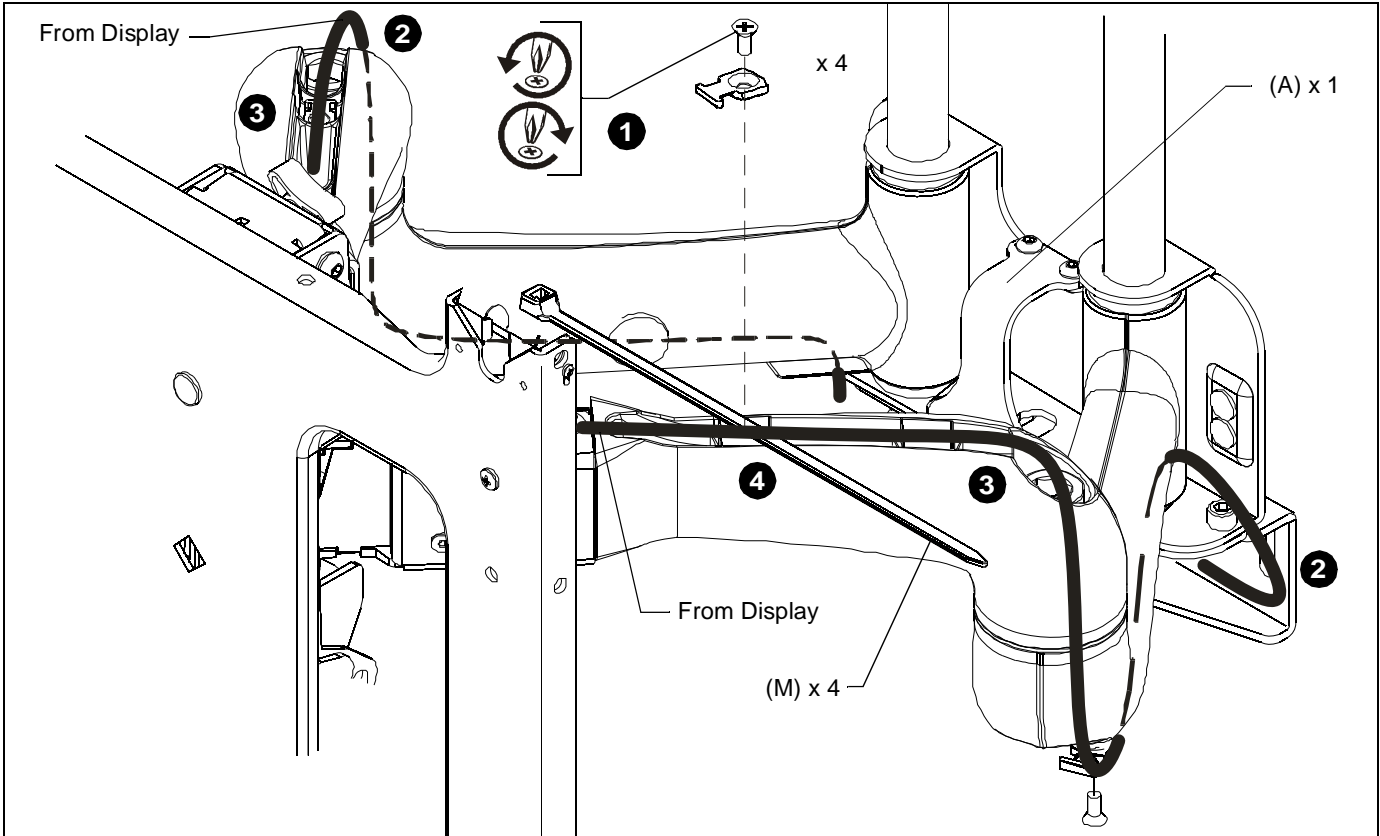

Figure 6
1. Loosen front and rear cable clamps on top arm. (See Figure 6)
2. Thread cable ties (M) under cable clamps and secure clamps to top arm. (See Figure 6)
3. Route power/audio/video cables through the cable channel in top arm (See Figure 6), allowing sufficient slack in cables for left/right movement of display and swing arm and also swing arm extension and retraction.
4. Secure cables to top arm using two cable ties (M).